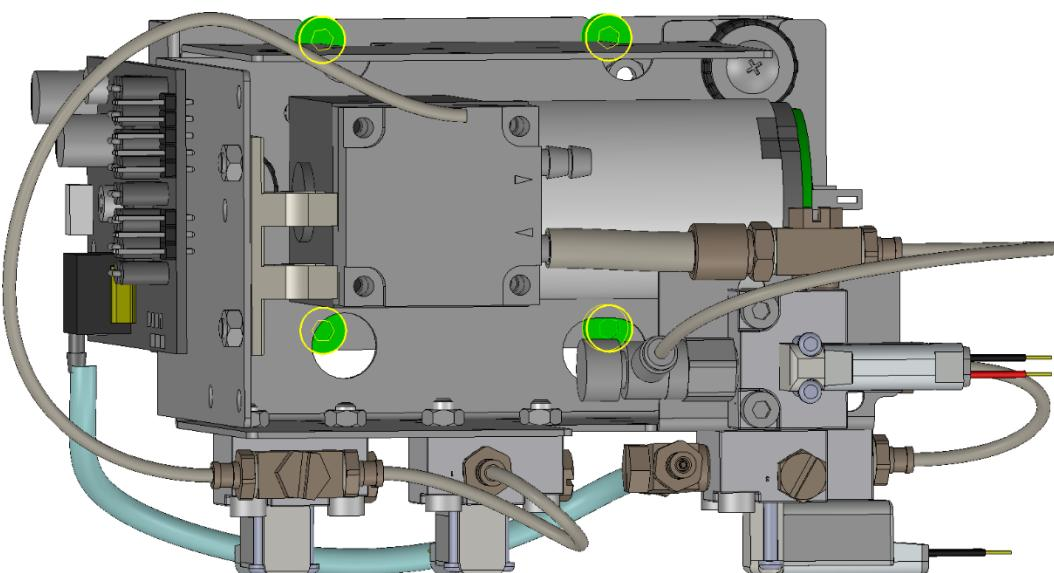

Figure 42. Mounting screws of the Gas Management Unit.
2. Unmount GMU from the base plate (screws: 4 pcs of 4xM4 mm), see Figure 42.